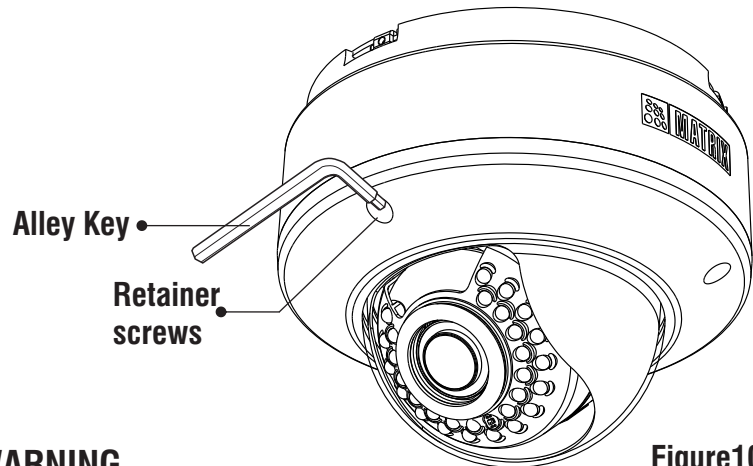

Figure10
1. Open the retainer screws and remove the lens cover. See **Figure:10**